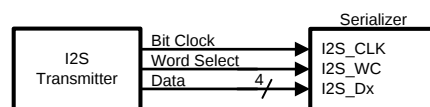
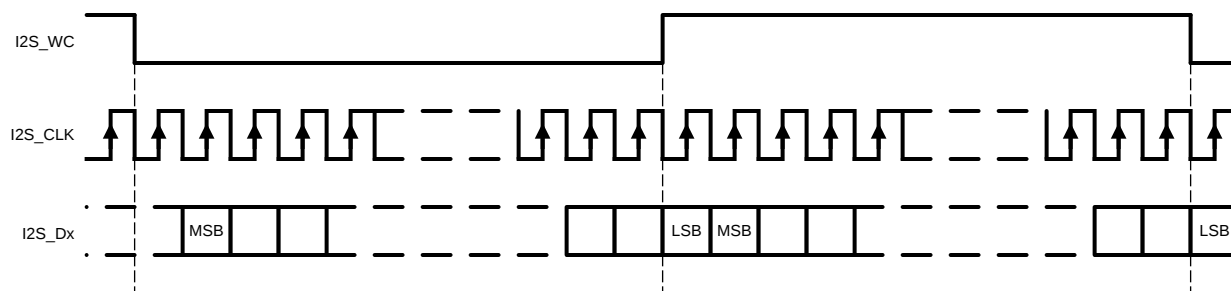

Figure 13. I²S Connection Diagram
Figure 14. I2S Frame Timing Diagram
The DS90UH941AS-Q1 serializer features six I²S input pins that, when paired with a compatible deserializer, supports 7.1 High-Definition (HD) Surround Sound audio applications. The bit clock (I2S_CLK) supports frequencies between 1 MHz and the lesser of CLK/2 or 13 MHz. Four I²S data inputs transport two channels of I²S-formatted digital audio each, with each channel delineated by the word select (I2S_WC) input. Refer to Figure 13 and Figure 14 for I2S connection diagram and timing information.